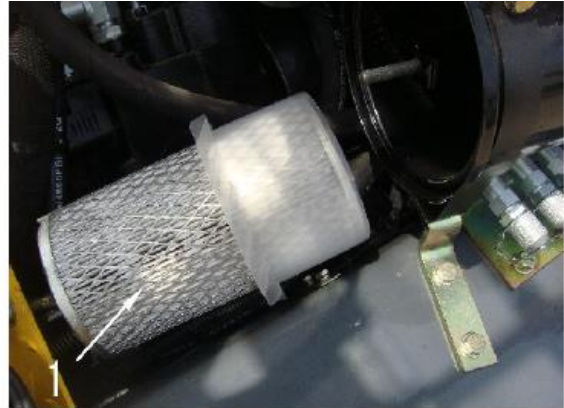

Fig. C- 39
- Pull out the main filter element (Fig. C 39:1).